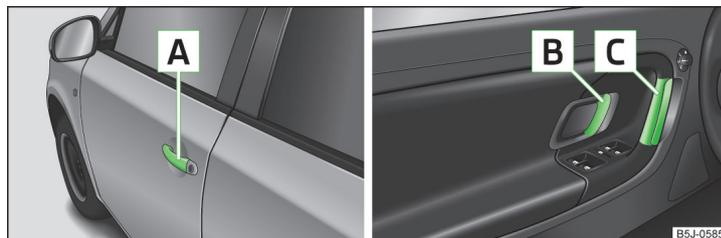

Fig. 28 Door handle/door opening lever
- Unlock the vehicle and pull the door handle [A] » Fig. 28 on the door you wish to open.